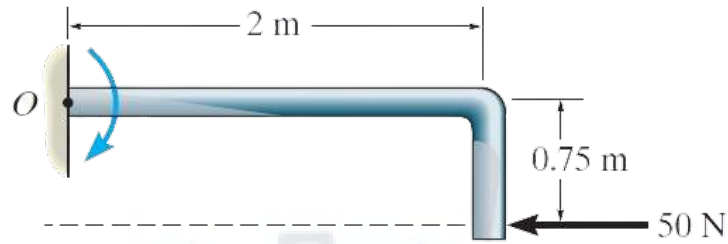

Figure 2
3. Find the resultant moment at a point *O* shown in Figure 2.